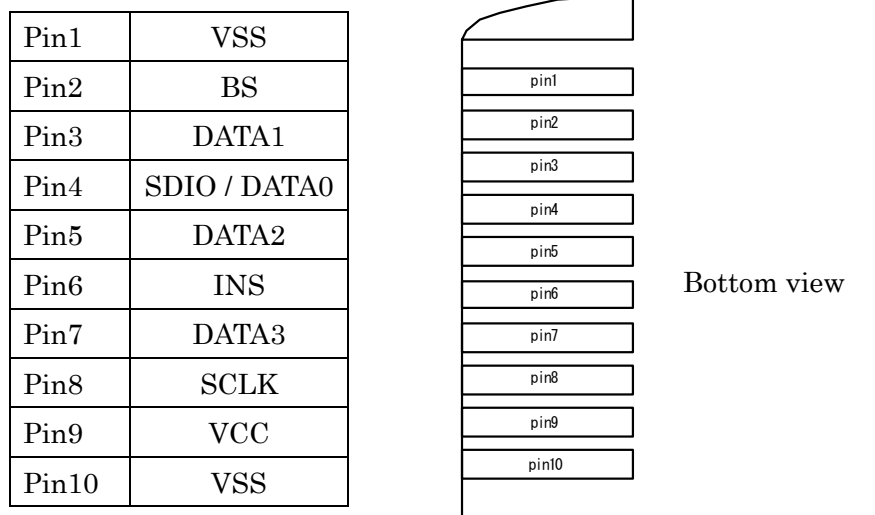

Fig. 4.2.1 Terminal Name
- When a Memory Stick PRO is inserted, Pin1 (VSS) or Pin10 (VSS) shown in "Fig. 4.2.1 Terminal Name" shall first make contact with the connector contact point. When a Memory Stick PRO is removed, Pin1 or Pin10 shall make contact with the connector contact point until it is completely removed.
- When a Memory Stick PRO is inserted, Pin6 (INS) shown in "Fig. 4.2.1 Terminal Name" should last make contact with the connector contact point.
"Fig. 4.2.1 Terminal Name" shows the terminal names of a Memory Stick PRO.
For a product supporting parallel interface, the left figure of "Fig. 4.2.1 Terminal Name" shall be used.